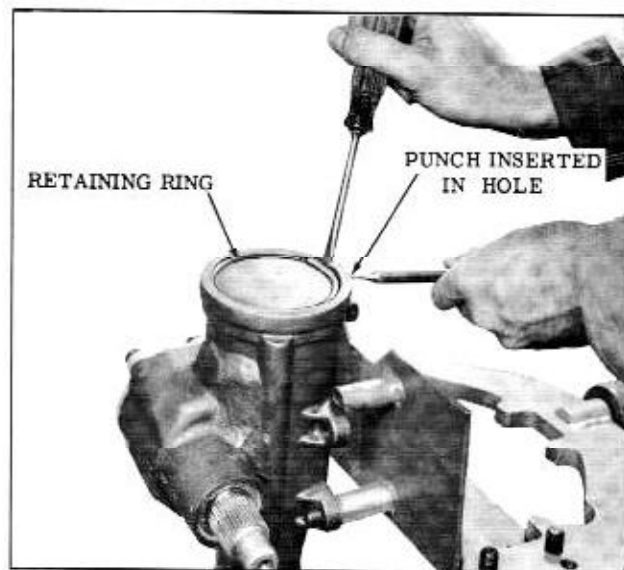

Fig. 4-5 Removing End Cover Ring
1. Rotate end cover retainer ring so that one end of the ring is over hole in side of housing then force end of ring from its groove and remove ring. (Fig. 4-5)